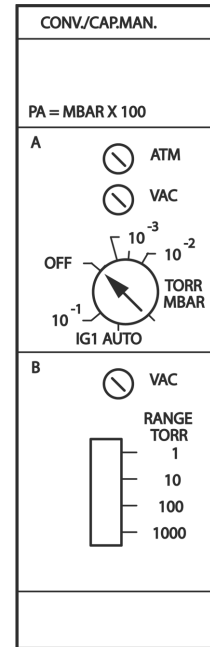
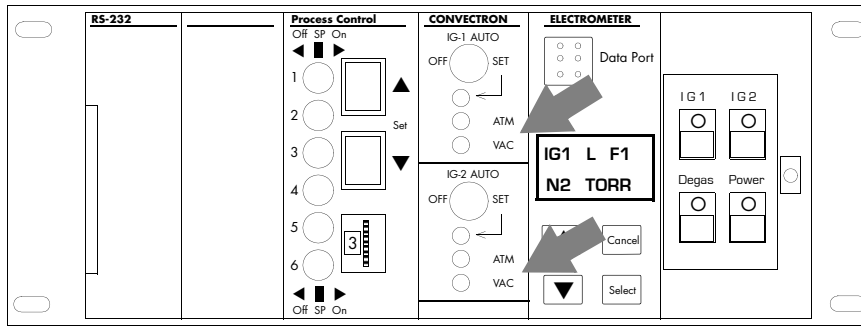

Figure 4-16 Convector / Capacitance Manometer Module Panel
Figure 4-17 Control Unit Front Panel (with Door Open) Showing Convector Gauge Zero and Atmospheric Adjustments
Only IG1 is turned on with the Convector/Capacitance Manometer potentiometer from Convector A. See Figure 4-16.
2. With power on and at vacuum less than 1×10^{-4} Torr for at least 15 minutes, adjust VAC for gauge A (see Figure 4-17) until display A indicates 0.0 0 Torr/mbar or 0.0 0 Pa, not 1.0 -4, 1.0 -2, or 0.0 -0.
5. With the power on, adjust ATM adjustment A (see Figure 4-16 and Figure 4-17) until gauge display A indicates the local atmospheric pressure in the pressure units you have selected.